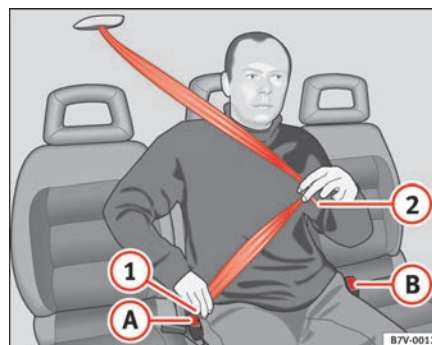

Fig. 11 Fastening the seat belt on the centre seat in the second row of seats
- Pull the belt so that the tongue ⇒ fig. 11  is pulled down.